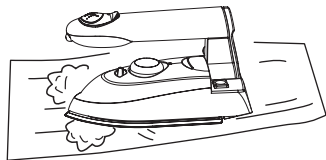

Fig.12
2. Aim at position you want to iron., press Spray Knob for 2~8 times, wet the cloth averag. (Fig.12)